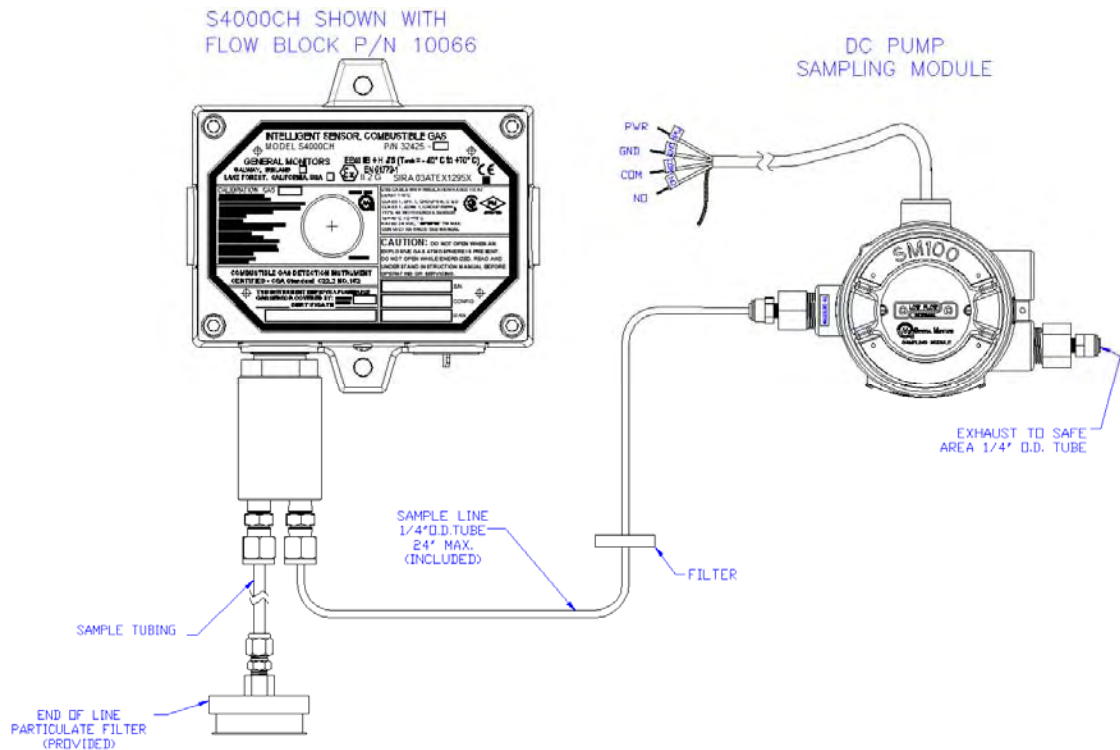

Figure 1-2 Sampling Module Installation with General Monitors S4000CH (or S4000TH) Gas Detector
A properly-installed unit for a single SM100 Gas Monitor is shown in FIGURES 1-2 through 1-4. It is also possible for one SM100 to supply sample gas for up to three General Monitors Gas Detectors. This procedure:
4. Mount DC Pump Sample Module EXHAUST tubing so that the end of the tubing is facing downward and is the lowest point of the tubing (see FIGURES 1-2 through 1-4).
2. Install the flow block(s) on the General Monitors Gas Detector(s). See FIGURES 1-2, 1-3, and 1-4.
4. Attach the other end of the supplied tubing to the side of the flow block (FIGURES 1-2 through 1-4).
2. Attach a 1/4-inch (6.35 mm) OD sample tubing to the flow block sample inlet fitting on the General Monitors Gas Detector (FIGURE 1-2). Ensure tubing is compatible with the sampled gas.